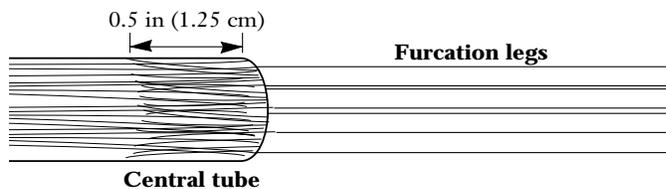

Figure 14
6.3 Flare out the exposed 2-inch lengths of aramid yarns from the furcation legs and trim them so they overlaps the fiber optic cable's yarns, and the roughened end of the cable sheath by 0.5 in (1.25 cm) (Figure 14).